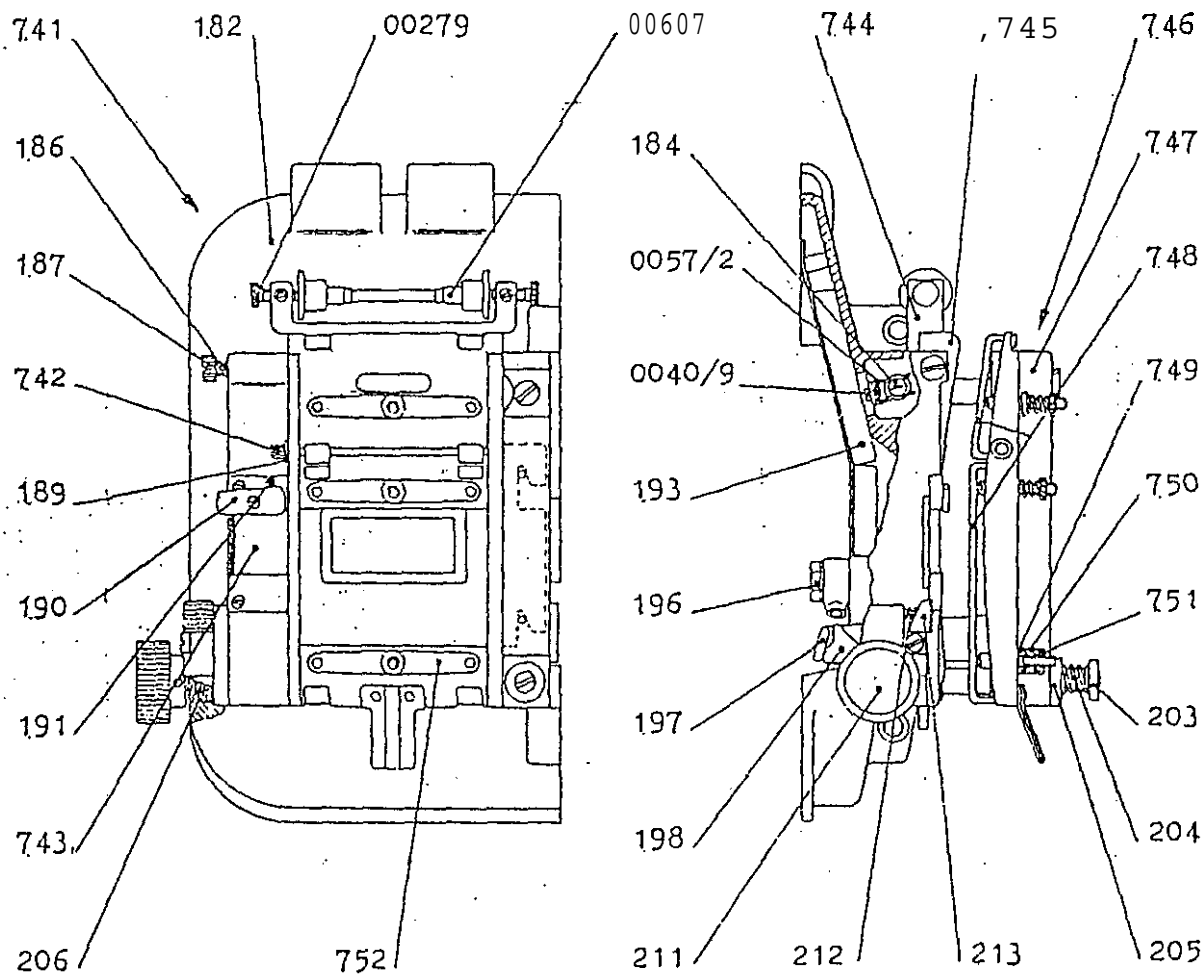

FIG. 26
- FIG. 26 — GATE BRACKET AND GATE FRAME